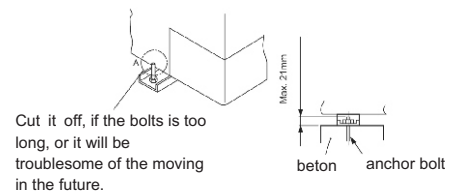

Fig. 4.2 The installation of anchor bolts
- (3) Fasten the outdoor unit as the Fig4.2.
- (4) Make sure fasten the outdoor unit tight and horizontal avoid to make noise when the machine oblique Or inclined by strong breeze or earthquake.
- (5) Not drain off water to the public places avoid to slip.